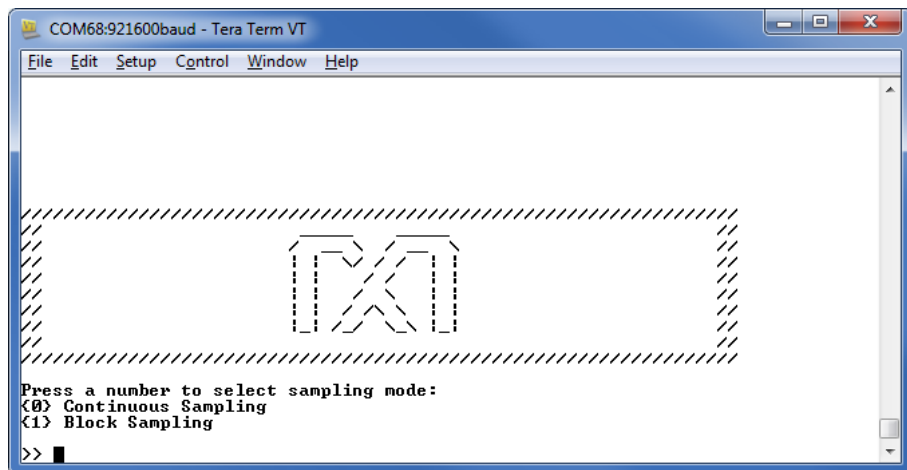

Figure 3. Terminal program main menu.
- The MAXREFDES61# software will display a menu (**Figure 3**)